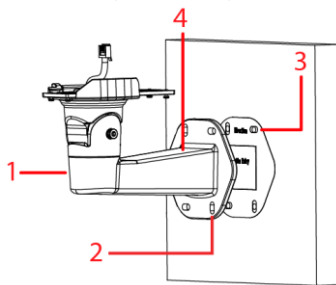

Figure 1
- After passing all required cabling through the mounting arm, place the mounting arm (1) (Figure 1) on the surface and align the four holes on the mounting arm (2) (Figure 1) with the four screw anchors or expansion bolts on the surface (3) (Figure 1).
- Insert the rubber plug into the top hole on the mounting arm (4) (Figure 1) to prevent water from entering the mounting arm.